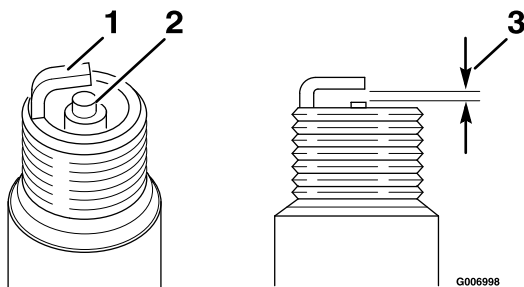

Figure 25
1. Look at the center of the spark plug (Figure 25). If you see light brown or gray on the insulator, the engine is operating properly. A black coating on the insulator usually means the air cleaner is dirty.
2. Check the gap between the center and side electrodes (Figure 25). Bend the side electrode if the gap is not correct.